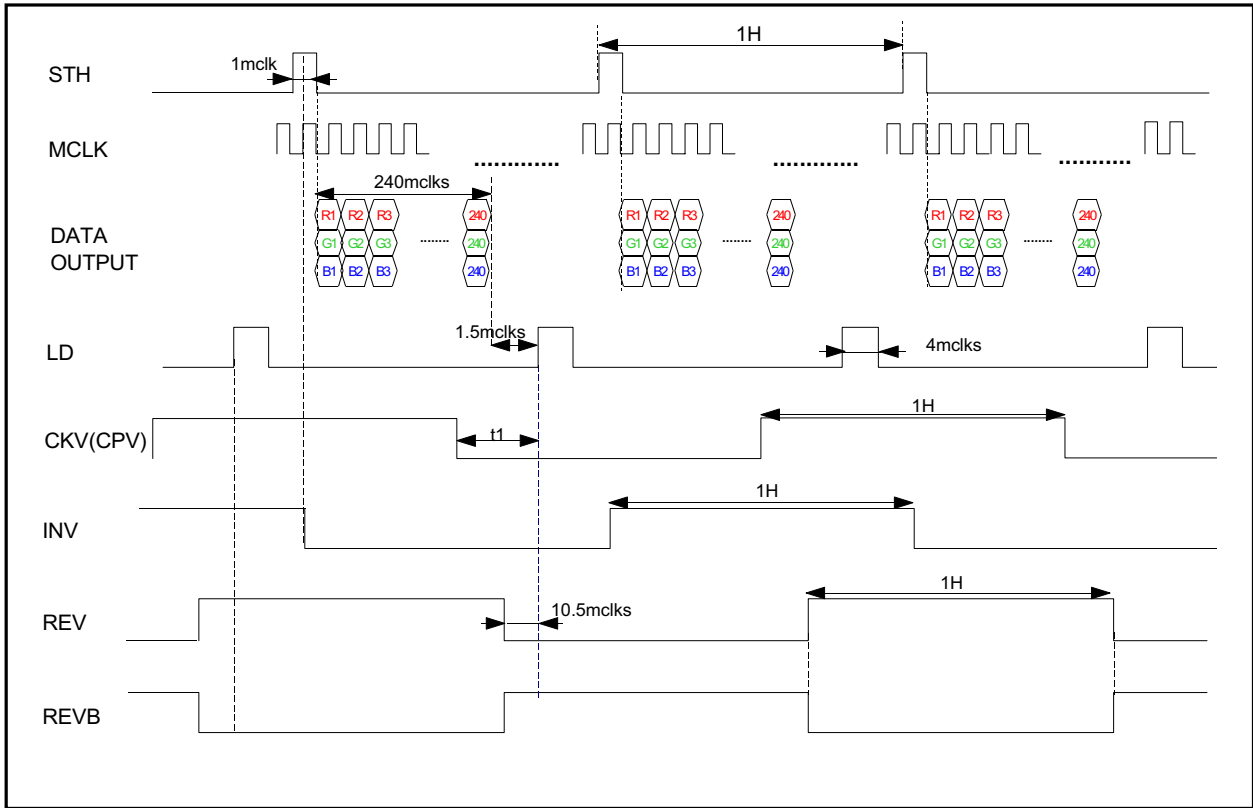

Figure 7. OUTPUT Timing Diagram2
- STH is a start-carry signal of Source driver that would be latched from High-edge of next clock after STH pulse High. After latching 240 Input data to Source driver, LD would be High that means to transmit the saved signals from Latch band to DAC. Please refer to Figure 7 in detail.
- REV & REVB is to generate VCOM and have a period of 2H. Please, refer to Figure 7 in detail.